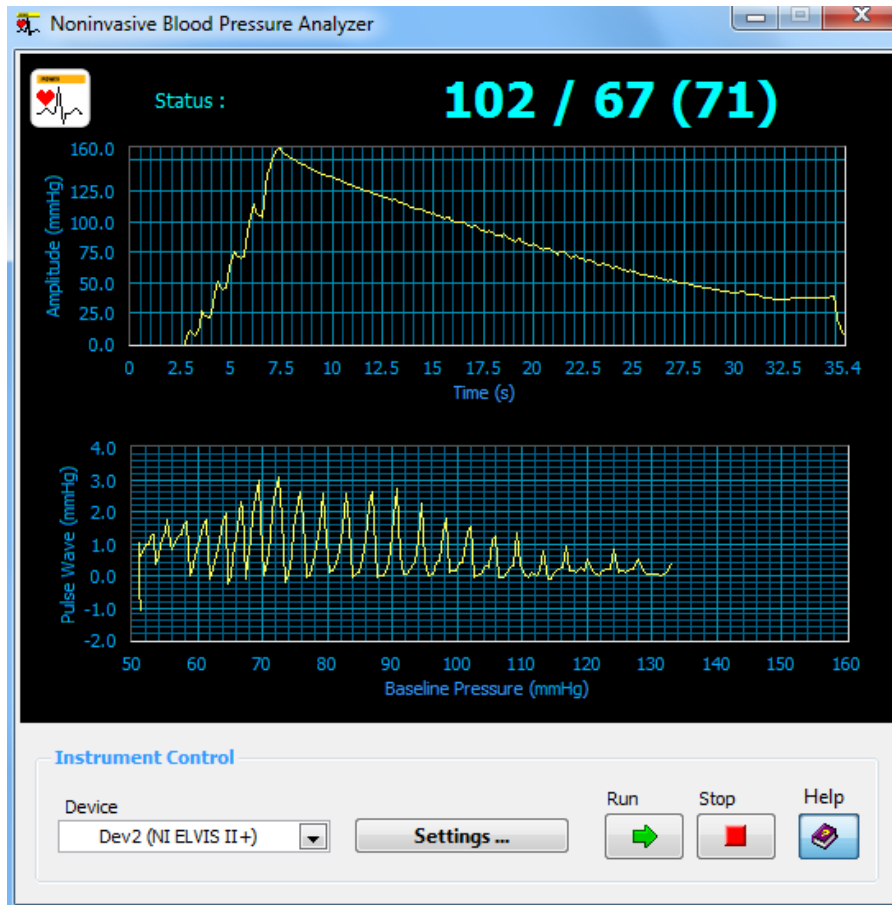

Figure 6: Example Results of Blood Pressure Measurement
- 8) The NIBP Analyzer window displays the real-time blood pressure plot in the top waveform graph. After the measurement process stops, the pulse wave amplitude profile is displayed in the bottom waveform graph. The estimated blood pressure (systolic/diastolic) is displayed in the top right corner. An example of the results of a blood pressure measurement is shown in Figure 6.